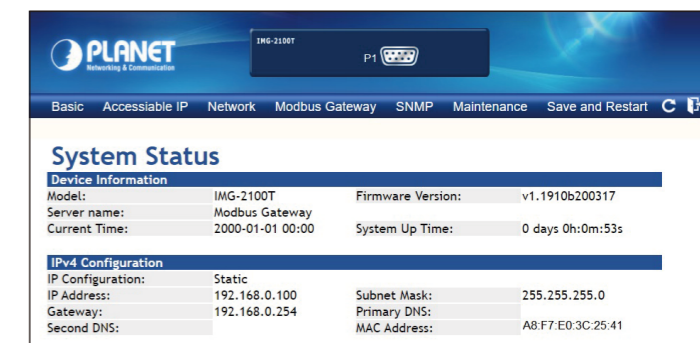

Figure 4-3: Web Main Screen of Industrial Modbus Gateway
3. After entering the password, the main screen appears as shown in Figure 4-3.